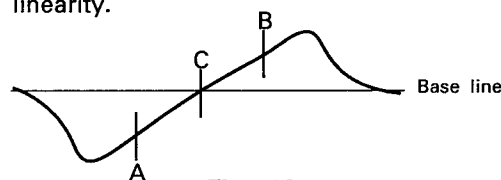

Fig. 10
4. Use the T203 core to form the S-curve shown in Fig. 10. Adjust the symmetry of A and B about point C for linearity.